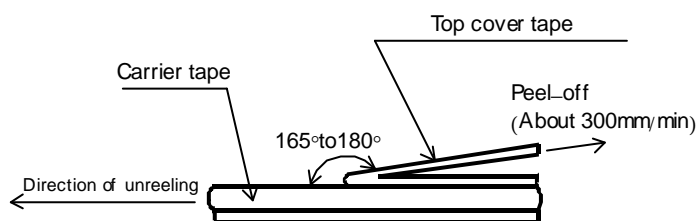

Figure-7
- 5). The peel strength of the top cover tape shall be with in 0.1N to 0.5N on the test method as shown in the following Figure-7.